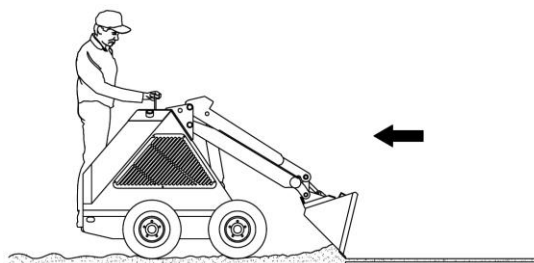

Fig. 16
2. To level a filled area, tilt bucket forward and drive machine backwards to drag bucket and spread material, as shown in Figure 16.